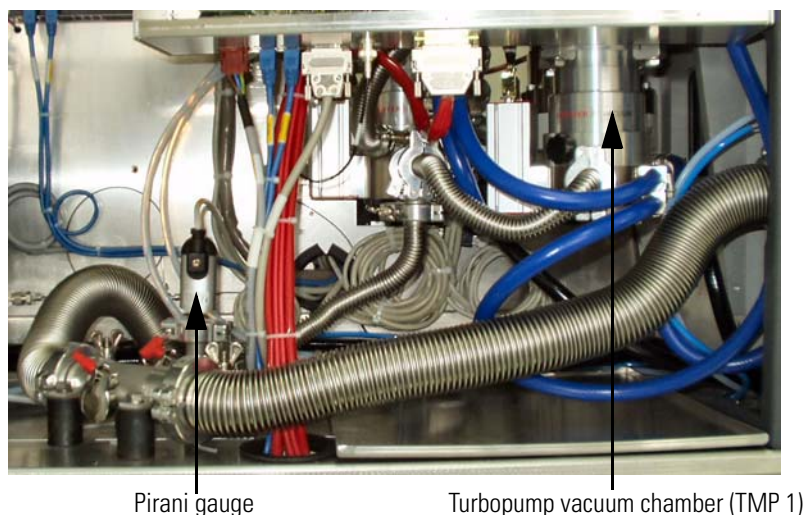

Figure 1-15. Vacuum components on the left instrument side
All parts of the system except for the Orbitrap analyzer are mounted in an aluminum vacuum chamber evacuated by a 60 L/s turbopump (TMP 1, see Figure 1-15). The rotary vane pumps of the linear trap (see below) provide the forevacuum for this pump. This chamber is bolted to a stainless steel welded UHV chamber housing the Orbitrap, lenses, and corresponding electrical connections.
- The forevacuum of the LTQ Orbitrap MS instrument is monitored by an Active Pirani gauge (TPR 280, manufacturer: Pfeiffer) connected to the LTQ Orbitrap forevacuum line. See photo right and Figure 1-15 on page 1-19.